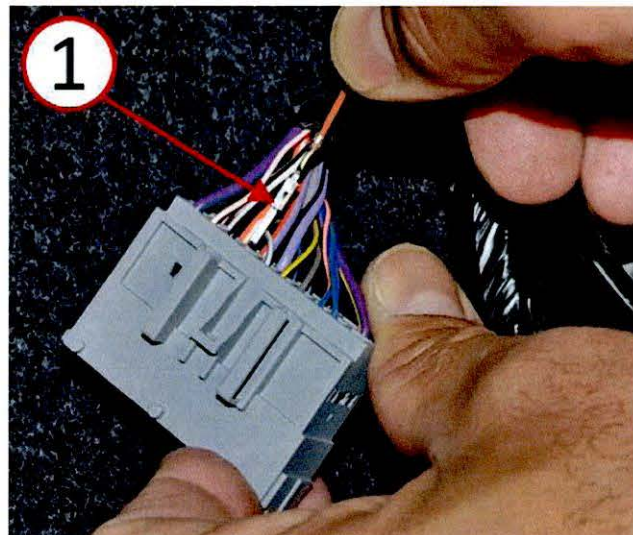

**Fig. 22 Electrical Connector Terminal Retainer**
26. Remove the red electrical terminal lock wedge from the body side electrical connector C154 (Fig. 22).